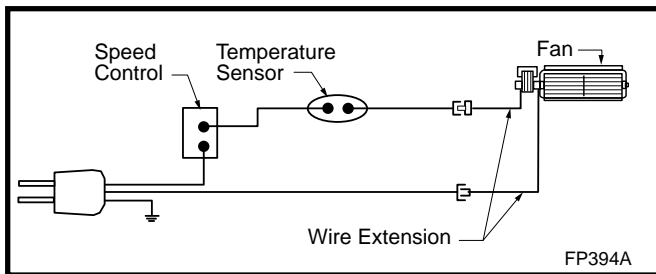
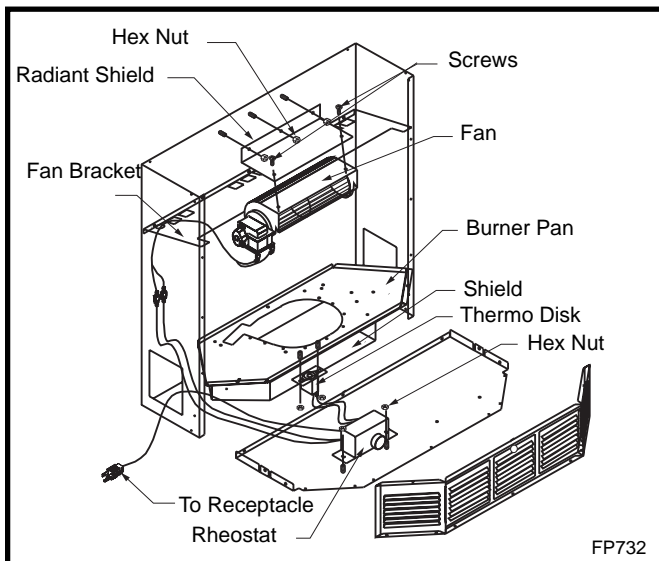

Fig. 5 Wiring diagram.
Fig. 6 Parts identification.
1. Remove the two (2) screws holding the screen rods inside the bay top. Remove the screen and rods then set aside.
2. Remove the bay top by removing three (3) screws securing it to the combustion dome and three (3) screws on top of unit.
3. Remove three (3) nuts securing the fan bracket to the back of the heater.
4. Remove the (2) screws holding the bracket to the fan. Discard this bracket.
5. Remove the two (2) wires attached to the fan and assemble the fan to the bracket as shown in Figure 6.
6. Attach the fan assembly to the back of the heater with the three (3) nuts.
7. Attach the electrical flag connectors to the fan motor using the wire extension (Fig. 5)
10. Mount the thermo-disc to the shield under the burner pan and secure with two (2) nuts.
11. Mount the fan on-off control to the base with the studs provided and secure with two (2) nuts.